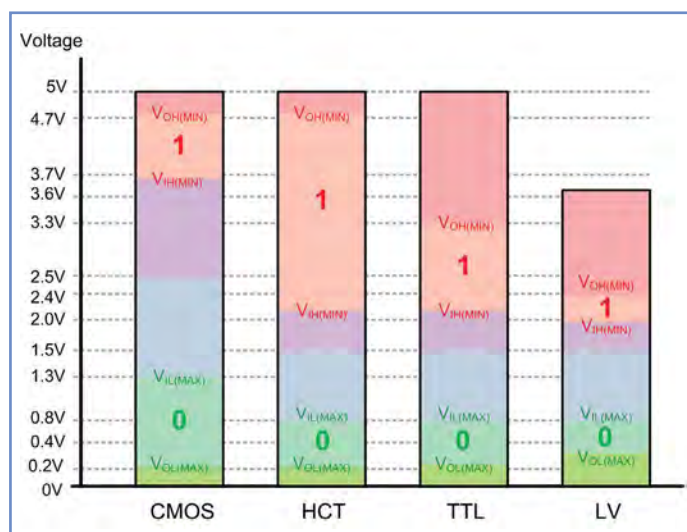

Fig.8.2. Comparison chart of common logic families
In practice, you are likely to encounter a variety of sub-families of the original 'standard' TTL and CMOS logic families. These include CMOS devices compatible with TTL (HCT and FCT) as well as low-voltage (LV) logic devices. The chart shown in Fig.8.2 provides a useful comparison of the threshold voltages of these different families.